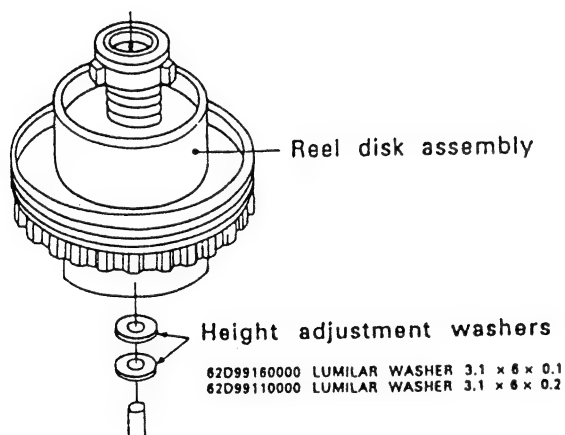

Fig.5 Washers for height adjustment
- d) If it is necessary to adjust the height, add or subtract the required number of height adjustment washers as shown in Fig.5.